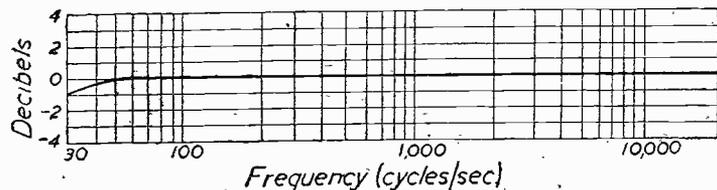

Fig. 1.—Response curve (practically "straight line") for a high-fidelity amplifier.
**R**ESPONSE, as applied to a receiver or amplifier, is generally understood as the variation in output for an input of given voltage over a range of frequencies. Thus it is customary to give a response curve or graph on which the output (or a factor representing variation in output) is plotted against the frequency of the input signal. It would be possible to show the output in milliwatts and the input in cycles per second, but it is more usual to plot frequency against a decibel scale. The graph would then be of the form shown in Fig. 1, which would indicate that the receiver or amplifier was in the